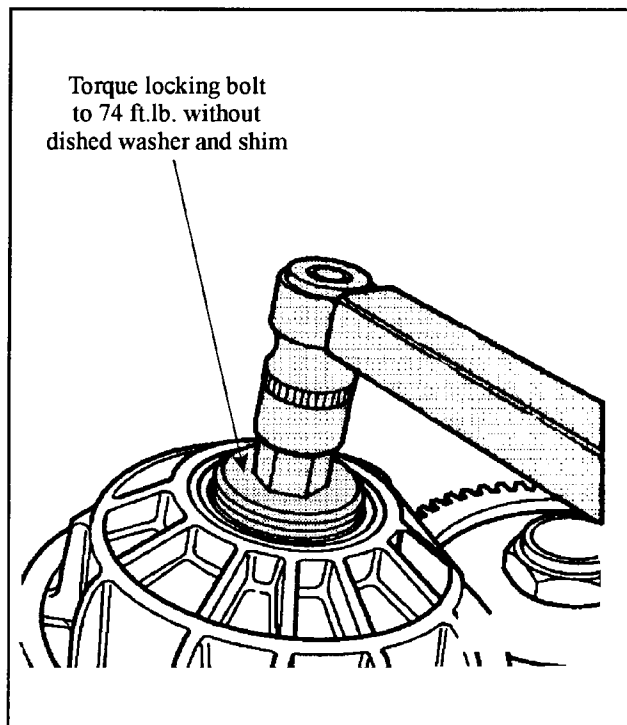

Figure 117
2. Using a torque wrench, tighten the locking bolt for the output gear to 74ft.lb. Lock the parking gear if necessary (See Figure 117).